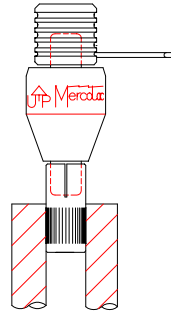

Fig 3 110-T Mounting
2. The slip ring can be held or mounted by the body or the receptacle <Fig 2>, and was not designed to carry mechanical loads. One end should always float, attached only by the connecting wires. In horizontal applications, mount the slip ring with the body rotating to reduce mechanical loads on the bearing. (Model 110 is an exception). There is a spring tension fit between the cap or receptacle and the contacts. The cap is usually mounted to the bearing end. <Fig 3>. **Never rigid mount both ends of the connector. This will cause connector failure.** Limit mounting eccentricity to a maximum of .005" (.13mm)